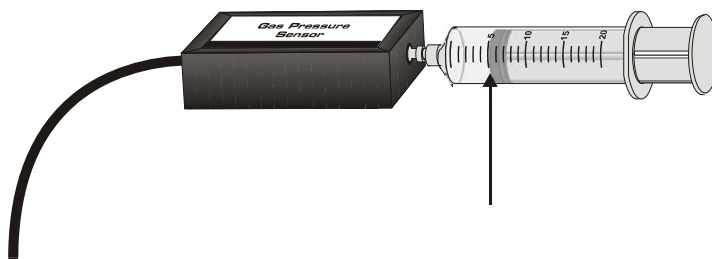

Figure 2
- b. With the 20 mL syringe disconnected from the gas pressure sensor, move the piston of the syringe until the front edge of the inside black ring (indicated by the arrow in Figure 2) is positioned at the 10.0 mL mark.
- a. Move the piston to position the front edge of the inside black ring (see Figure 2) at the 5.0 mL line on the syringe. Hold the piston firmly in this position until the pressure value stabilizes.